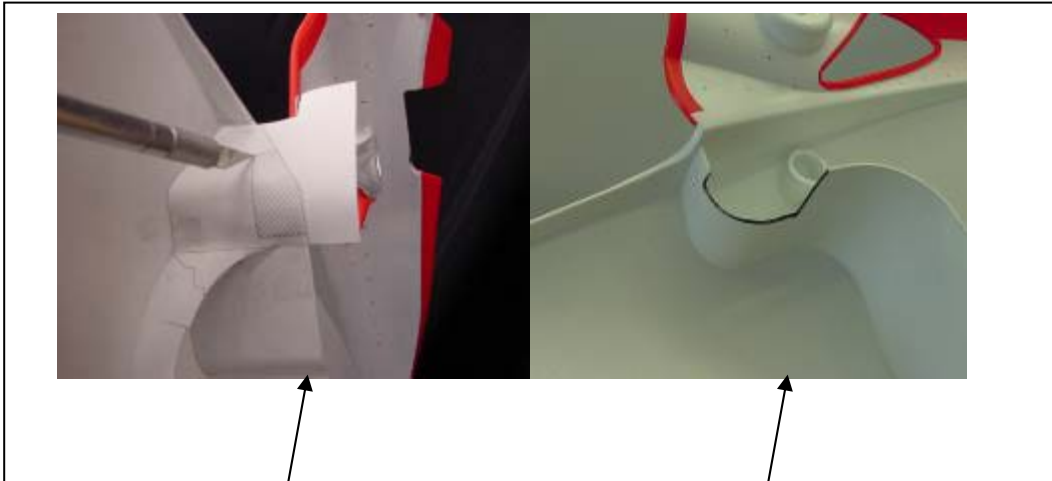

FIGURE 3, paper template on left side panel.
7. Using the provided template as a guide, trim the inside of the left side panel. **FIGURE 3** This needs to be trimmed to provide proper clearance for the rack side arm support. Use a sharp utility razor knife and trim small amounts at a time to ensure the best results.